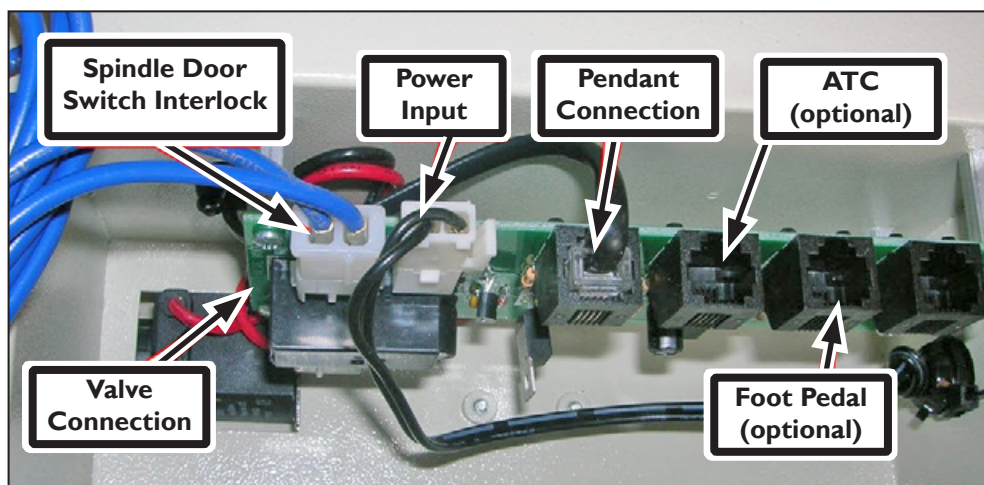

Figure 16
4. Connect the blue wires to the inside of the Power Drawbar control box (see **Figure 16**). This photo is for reference only; units are pre-wired.